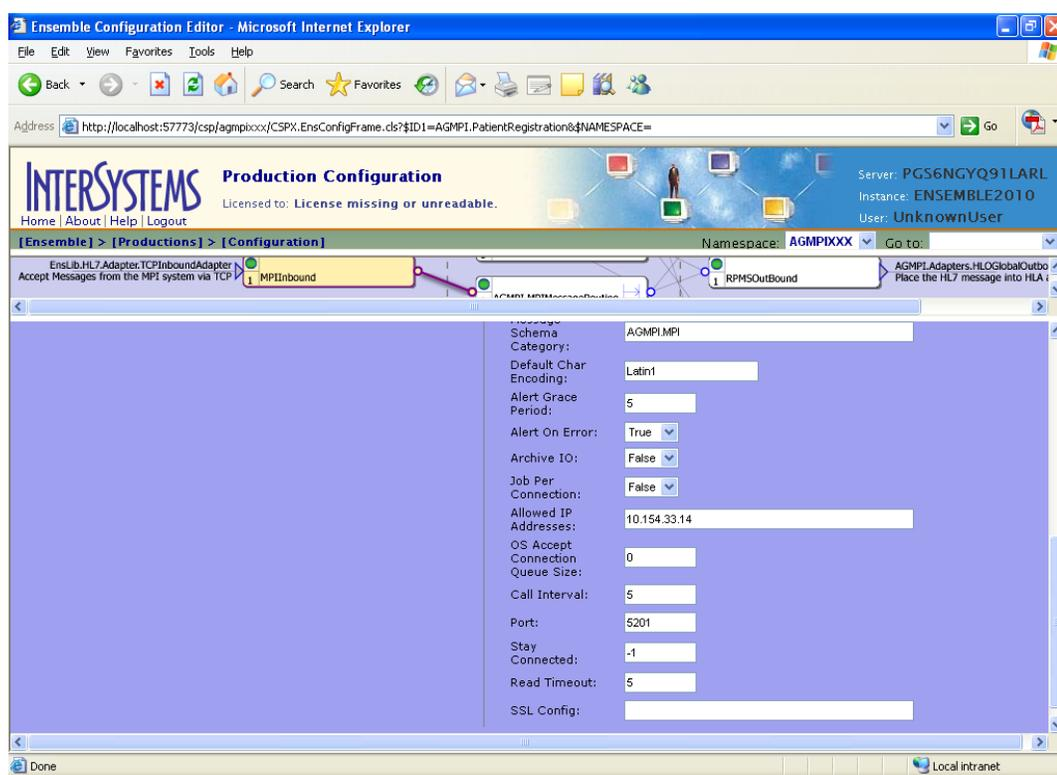

Figure 5-18: **MPIInbound** configuration
1. Click **MPIInbound** in the top pane of the **Ensemble Configuration** page to display the MPIInbound configuration settings in the bottom pane, as shown in Figure 5-18.